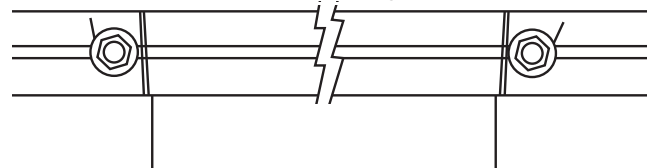

Figure 9
- ⑰ Repeat the above step for the other side of the draw cable. However, with this side, pull the hem-bar up so that the fabric retraction device "unlocks." Be careful NOT to let the hem-bar move around the roller until the installation is complete. This last end of the draw cable should be attached so that both ends have 1.5 revolutions around the operator roller when the hem-bar is at its lowest possible position (see Fig. 9).